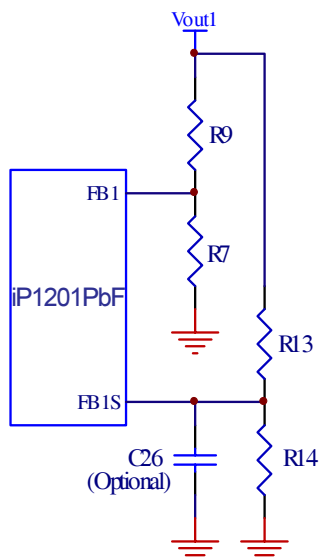

Fig. 19: Typical scheme for output voltage setting
Both outputs of the iP1201PbF will shut down if either one of the outputs experiences a voltage in the range of 115% of V_{OUT} . The overvoltage sense pins FB1s and FB2s are connected to the output through voltage dividers, R_{13} and R_{14} (Fig. 19), and the trip setpoints are programmed according to equation (1). Separate overvoltage sense pins FB1s and FB2s are provided to protect the power supply output if for some reason the main feedback loop is lost (for instance, loss of feedback resistors). If this redundancy is not required and if Type II control loop compensation scheme is utilized, FB1s and FB2s pins can be connected to FB1 and FB2 pins respectively. An optional 100pF capacitor (C26) is used for delay and filtering purposes. In parallel configuration, FB2s should be connected to FB1s
When selecting output capacitors, it is important to consider the overshoot performance of the power supply. If the amount of capacitance is not adequate, then, when unloading the output, the magnitude of the overshoot due to stored inductor energy, and depending on the speed of the response of the control loop, can exceed the overvoltage trip threshold of the iP1201PbF and can cause undesirable shutdown of the output. The magnitude of the overshoot should be kept below 1.125V_{OUT}. To prevent the overshoot from tripping the output a delay can be added by installing capacitor C26 as shown in Fig.19.
From Fig.19 the transfer function $H(s)$ of the error amplifier is given by (9):